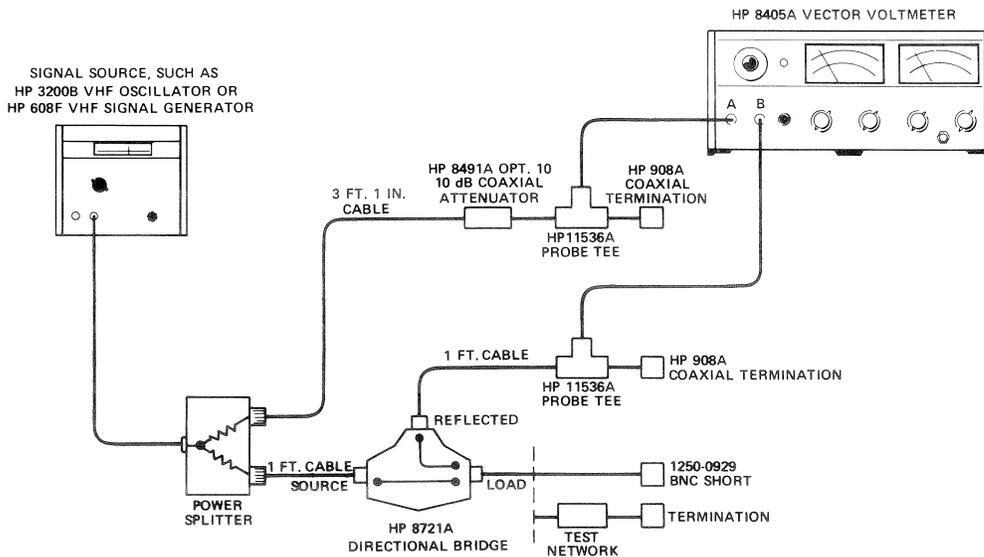

Figure 7. Setup for Making Reflection Measurements with HP 8405A
1. Setup the equipment as shown in Figure 7. Be sure to use the cable lengths specified (from the HP 11652A) in order to ensure proper phase matching between channels A and B.